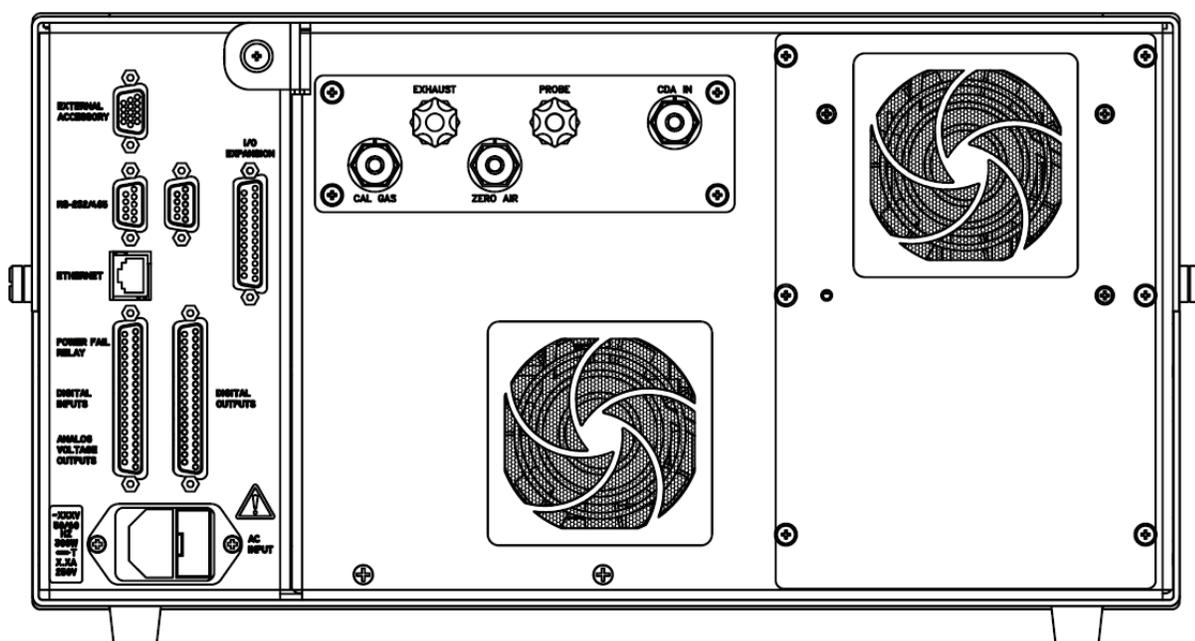

Figure 2–2. Model 81*i* Rear Panel
2. Connect the EXHAUST bulkhead connector on the Model 81*i* rear panel (**Figure 2–2** and **Figure 2–3**) to a vent suitable for mercury. The exhaust line should be restriction free and less than 10 feet long.
3. Connect 40-90 PSIG dry, conditioned air to the Model 81*i* CDA IN bulkhead connector (**Figure 2–3**).